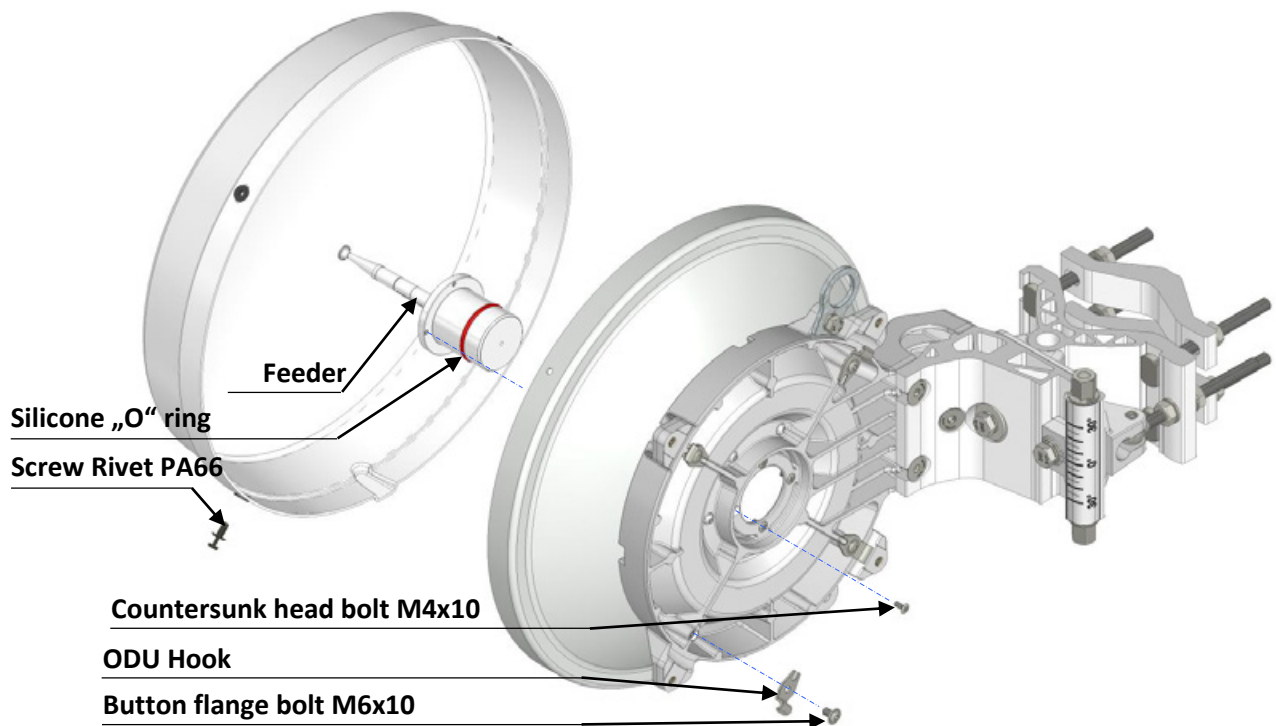

Figure 21 Attachment of feeder to the UNI1-80RF (UNI2-80RF) antenna
- Attach the feeder to the antenna using 4 M4 bolts (Figure 21).